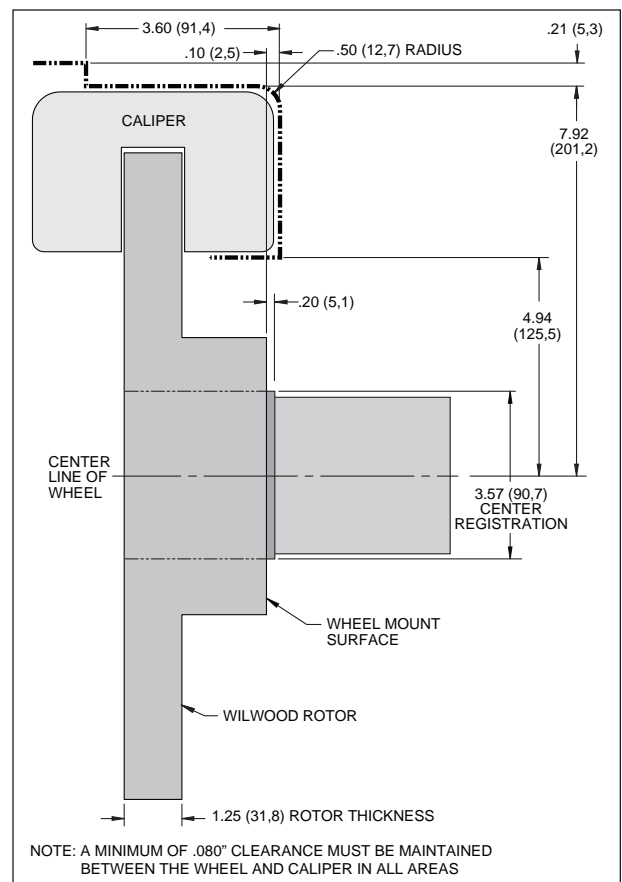

Figure 2. Wheel Clearance Diagram
- Verify your wheel clearance using Figure 2.
- **CAUTION:** Wheel fitment to OEM hub interference must be checked. There is a 3.57" diameter step on the hub face that was used to register the old brake drum (Figure 2). Be sure your wheel fits flush against the hub face. If the step interferes, you will need to use a wheel spacer (customer supplied) to clear the step.
- Temporarily install the wheel and torque the lug nuts to the manufacturer's specification. Ensure that the wheel rotates freely without any interference. **CAUTION:** *Wheel fitment to OEM hub interference must be checked.* There is a 3.57" diameter step on the hub face that was used to register the old brake drum (Figure 2). Be sure your wheel fits flush against the hub face. If the step interferes, you will need to use a wheel spacer (customer supplied) to clear the step.
•**NOTE:** *OEM rubber brake hoses generally cannot be adapted to Wilwood calipers. The caliper inlet fitting is a 1/8-27 NPT. Install Wilwood's stainless steel braided flexline hose kit (22), P/N 220-13319 included with this kit. **Carefully route hoses to prevent contact with moving suspension, brake or wheel components.** NOTE: *Wilwood hose kits are designed for use in many different vehicle applications and it is the installer's responsibility to properly route and ensure adequate clearance and retention for brake hose components.**